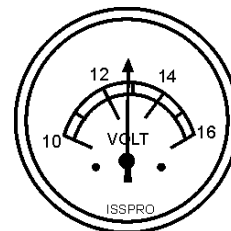

Figure 52. Battery Voltage Gauge
14. The battery voltage gauge (Figure 52) will indicate the voltage of the battery when the generator is operating. Under normal operating conditions this voltage is between 11.2 and 15.2 volts.